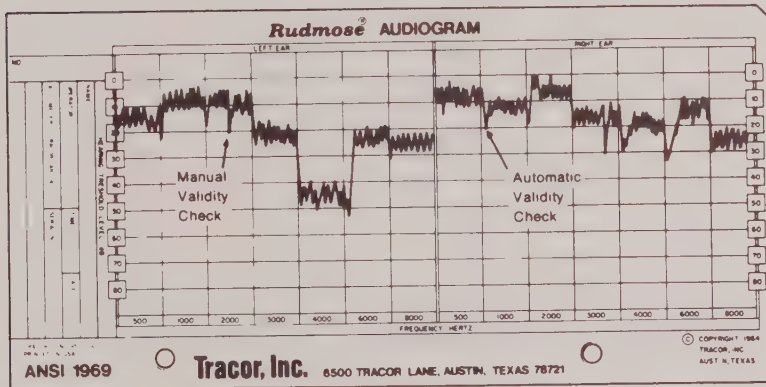

Figure 4 Audiogram Card/ARJ-4C/7
- a) If the sweeps are 10 dB or less, score the audiogram by drawing a line through the center of the sweeps and recording to the nearest 5 dB. (See figure 4.)
The audiogram card is attached to the table assembly with the aid of two locating guide-posts. These guide-posts rigidize the audiogram card and provide a repeatable method of locating the card. The motorized table assembly traverses the length of the instrument, along two table guide rods, which provides the means to represent time and frequency, recorded on the audiogram card by a nylon cord tip pen (see figures 4 and 8). The intensity of